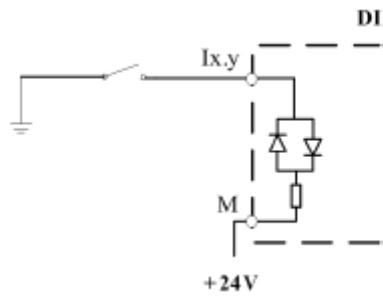

Figure 4-3-10 Sourcing type DI
**Sourcing type DI:** current flows from photoelectric coupler to switch, the other end of many switches are short connected together with power ground (as shown in Figure 4-3-10), output current is flowed to contacts for photoelectric coupler of DI devices, so it is named Sourcing type DI.